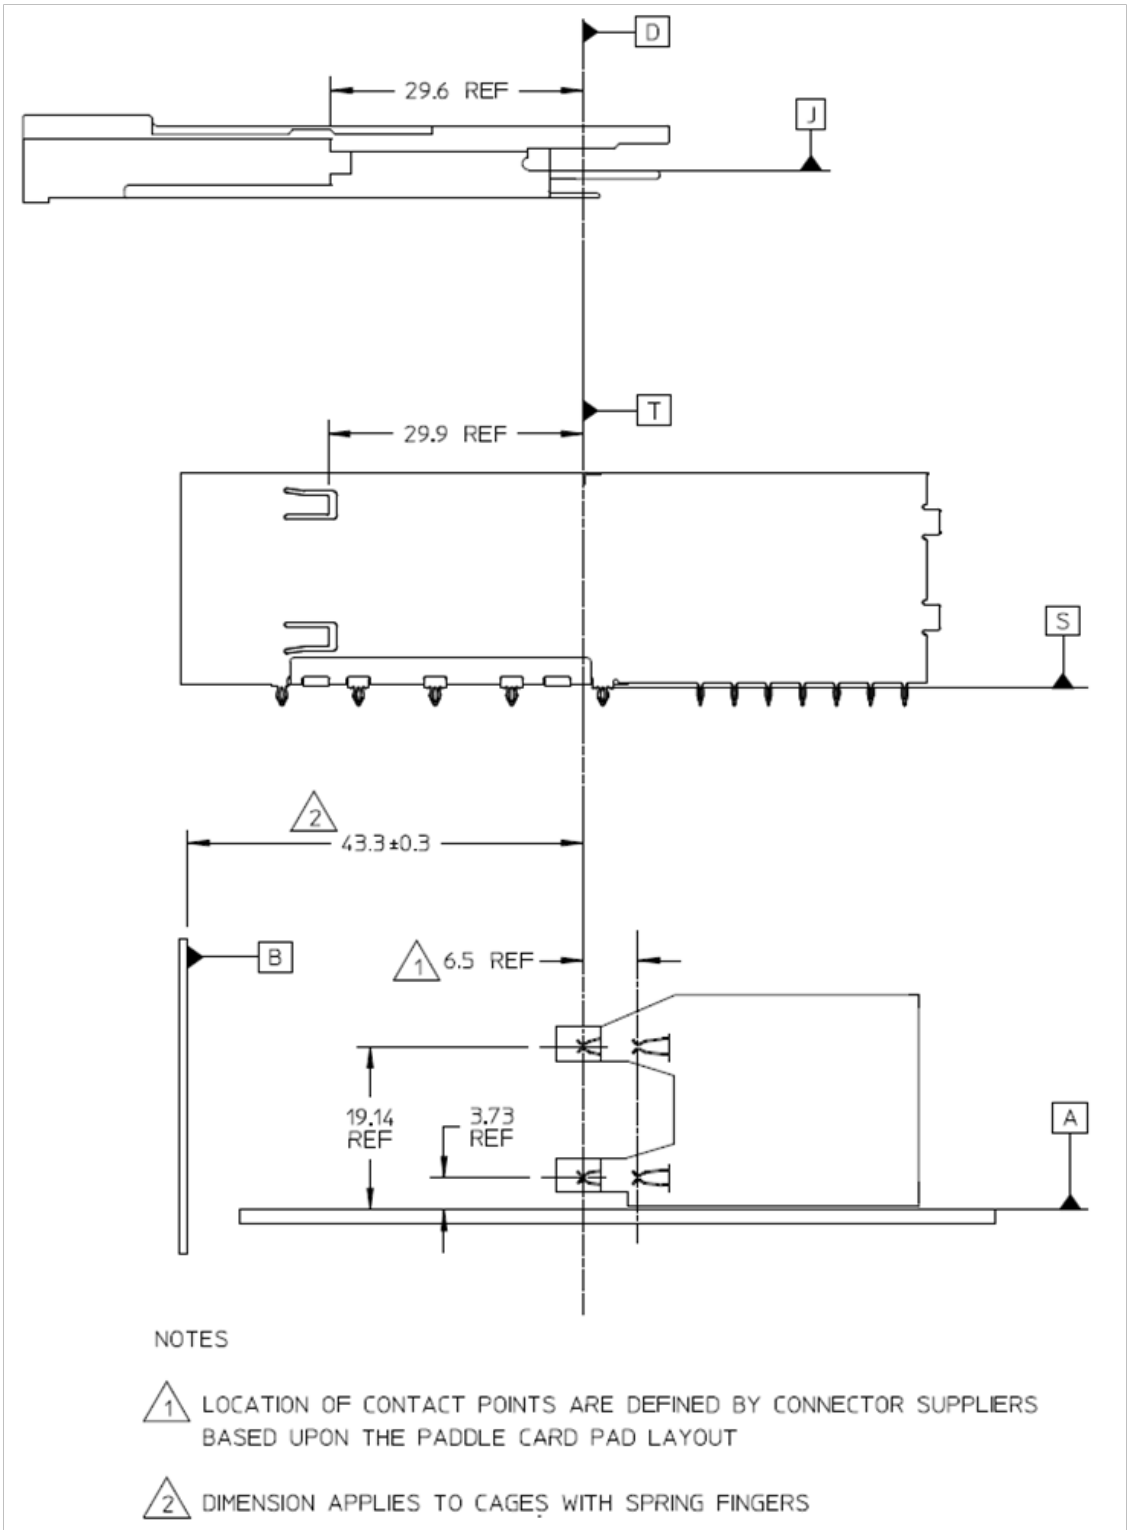
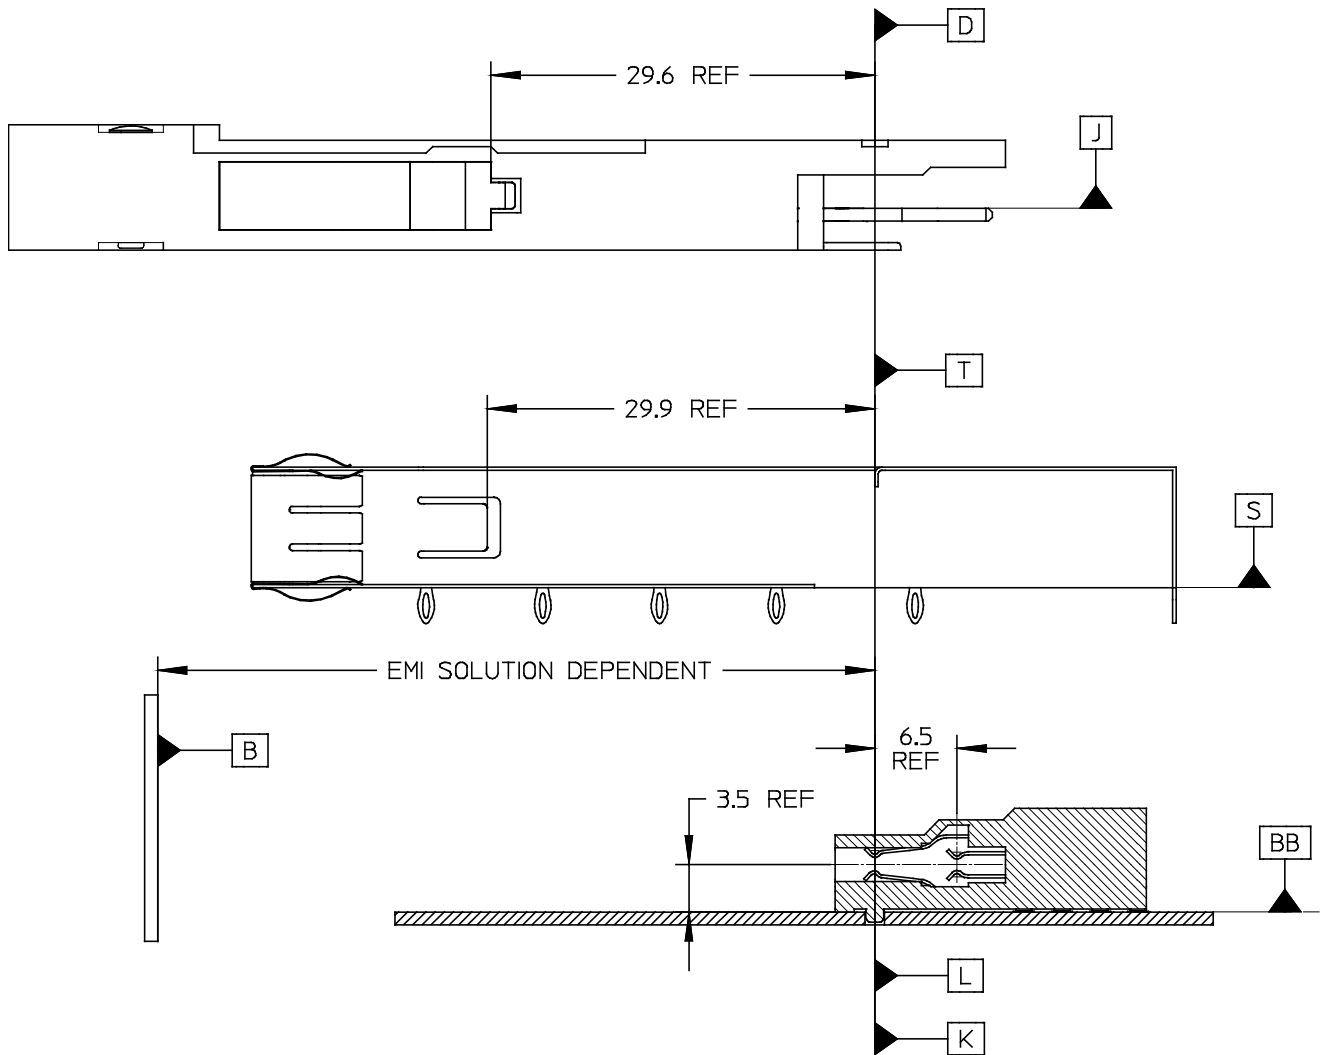

Figure 11: 2X1 stacked connector/cage datum descriptions
Figure 12: Surface mount connector/cage datum descriptions
*Datums D, N and T are aligned when assembled (see Figure 11 and Figure 12)